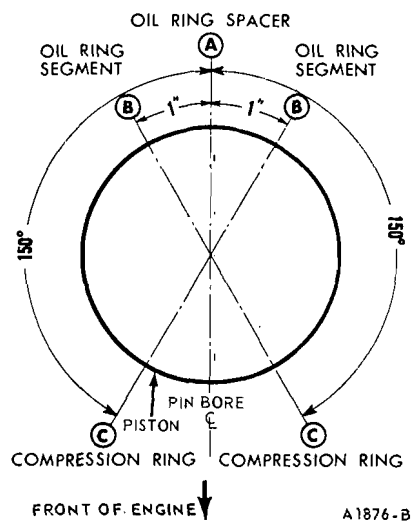

FIG. 53—Piston Ring Spacing
3. Make sure the ring gaps are properly spaced around the circumference of the piston (Fig. 53).